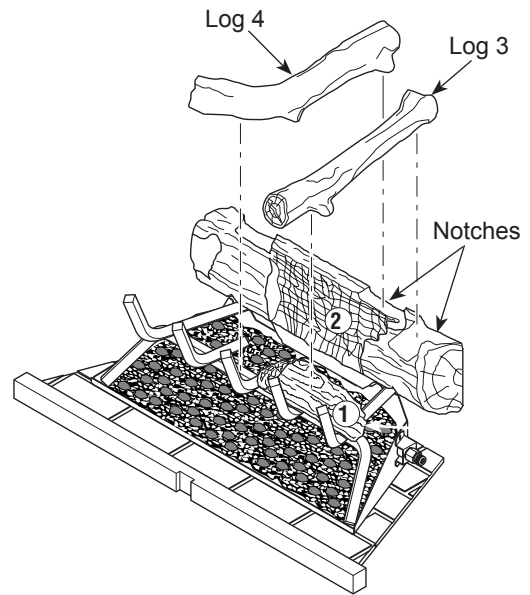

Figure 24 - Installing Logs 3 and 4
3. Place log 3 into notch on log 2, resting front end on top of log 1 (see **Figure 24**).
4. Place upper end of log 4 into notch on log 2 as shown in **Figure 24**. Rest lower end of log 4 onto middle grate finger as shown in **Figure 25**.